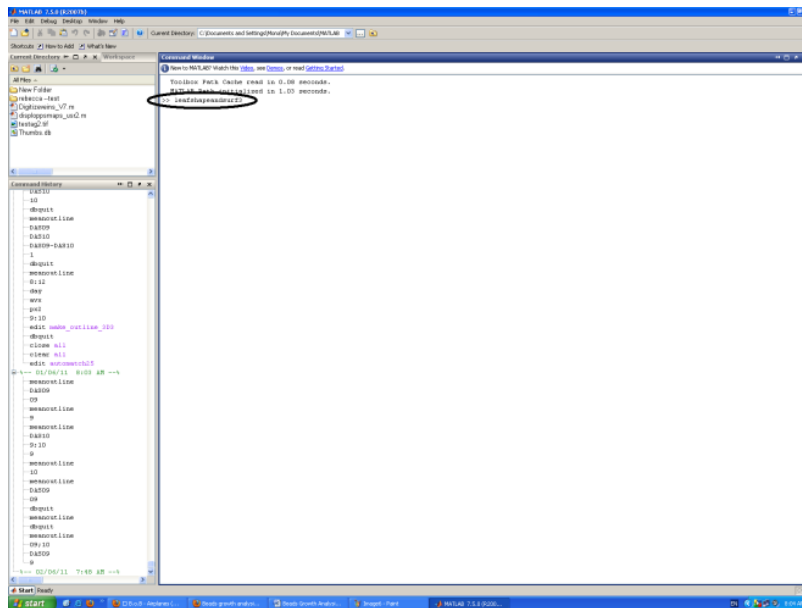

Figure 3. Initiating a program
3. Initiate a program in MATLAB 7.5.0 (R2007b) by copying the name into the command Window and pressing "enter" (Figure 3).